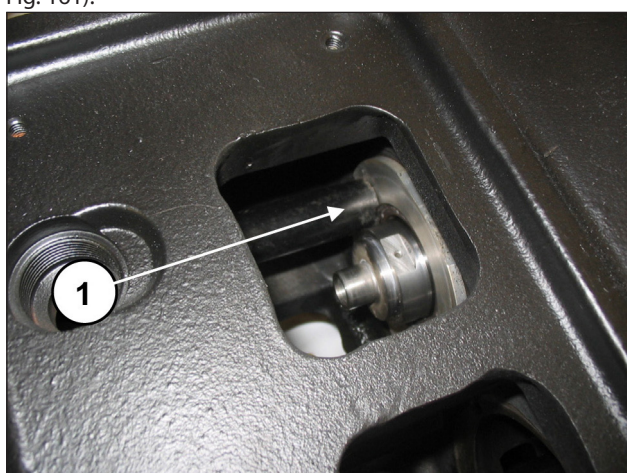
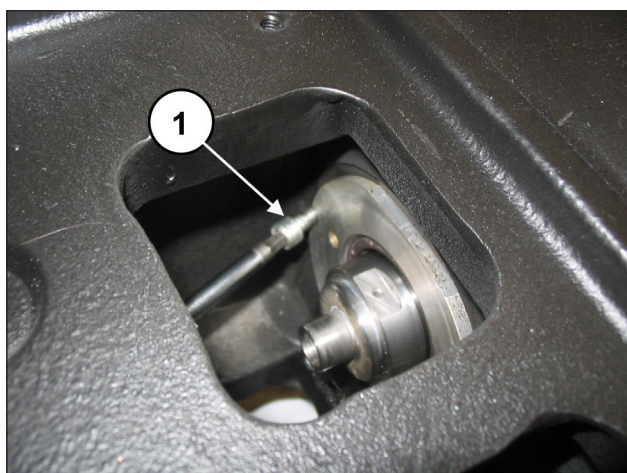

Fig. 160
Fig. 161
Make sure that the cover completely enters its seat (pos. ①, Fig. 160) being careful not to damage the lip of the seal ring. Screw on the oil seal covers using 2 M6x14 screws (pos. ①, Fig. 161).